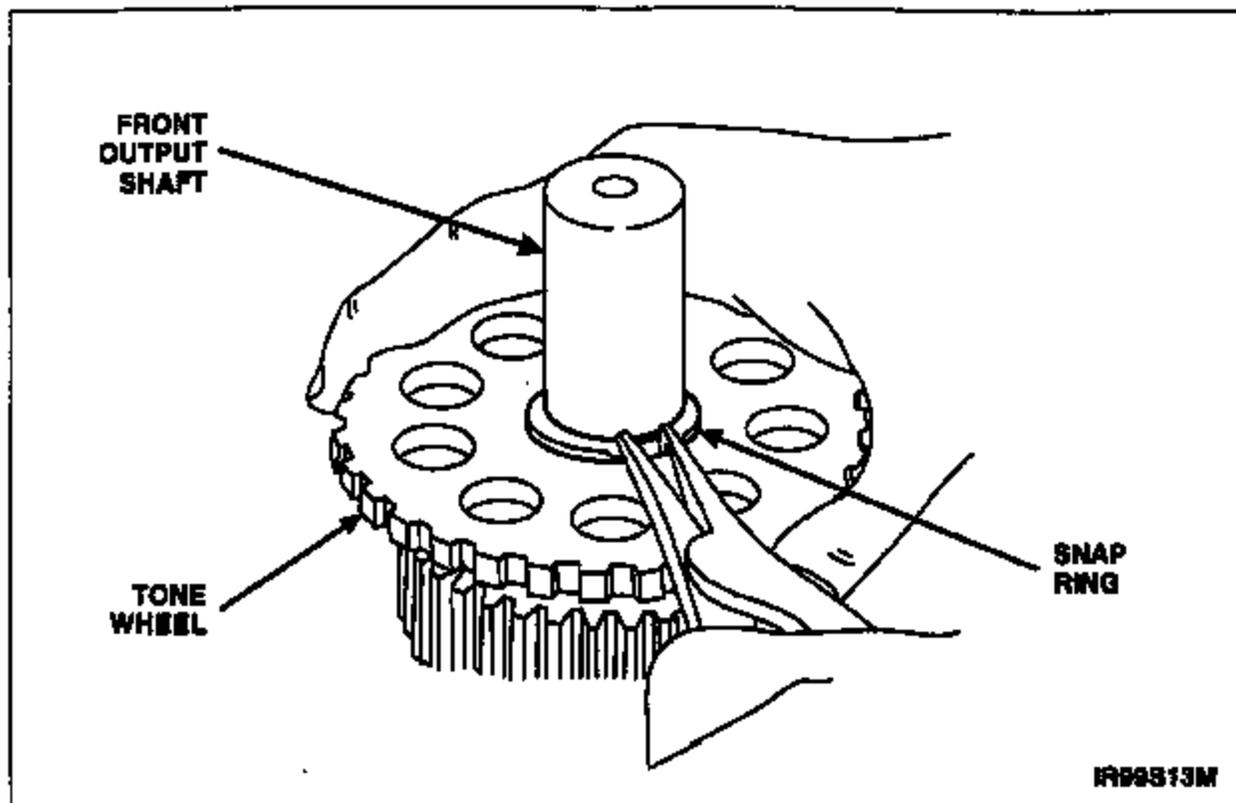

FIGURE 13
52. Remove the tone wheel snap ring from the front output shaft. See Figure 13.